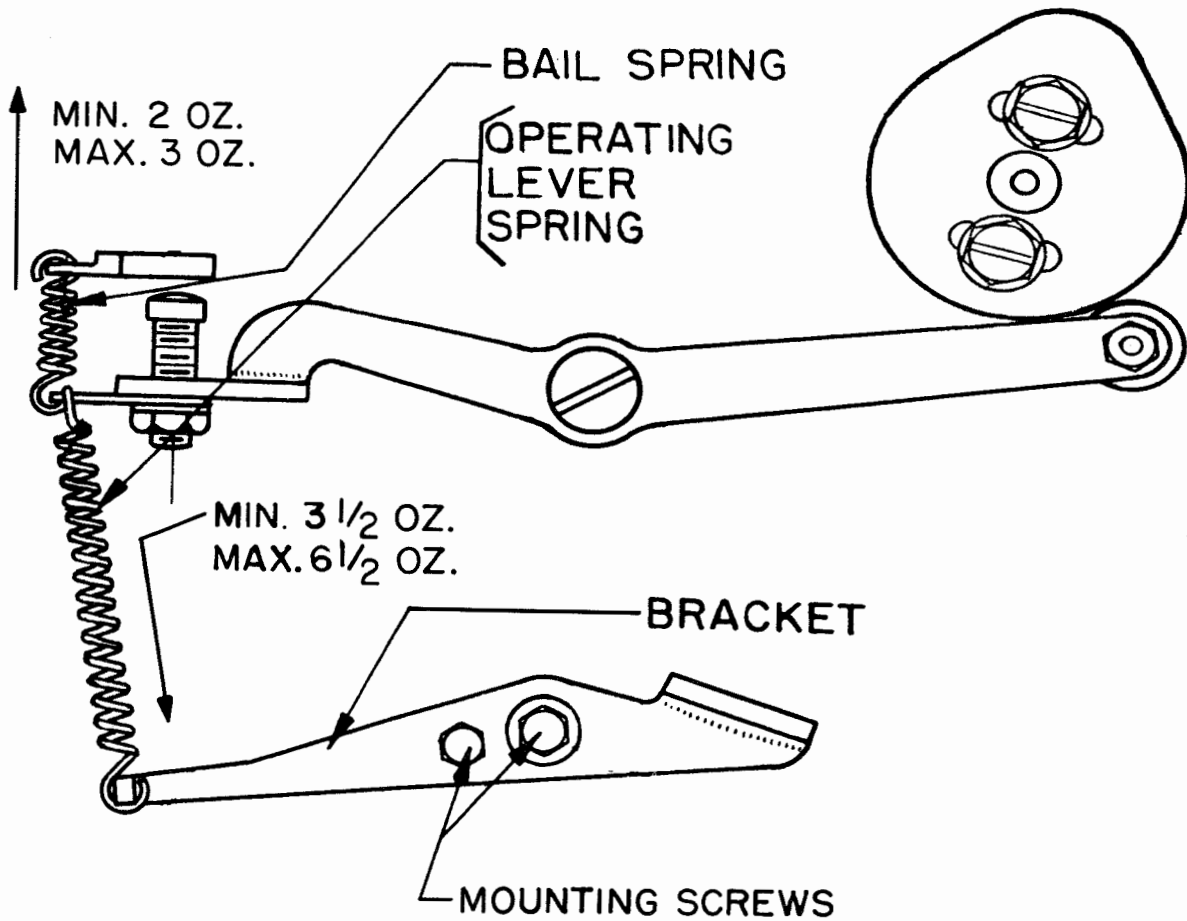

Figure 9
2.18 Operating Lever Spring (100 wpm operation): With the operating lever roller on the low part of its cam, it shall require minimum 3-1/2 ounces, maximum 6-1/2 ounces to stretch the operating lever spring to its position length. (See Figure 9.)
2.19 Bail Spring (100 wpm operation): It shall require minimum 2 ounces, maximum 3 ounces to stretch the bail spring to its position length. (See Figure 9.)